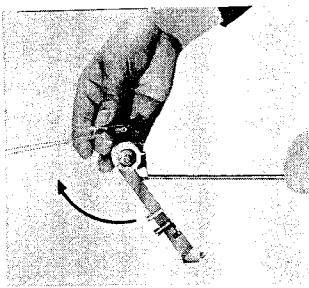

Fig. 9
- b. Turn the take up spring as far as they will go. (See Fig. 9)
- c. Turn the take up spring as far as they will go. (See Fig. 9)